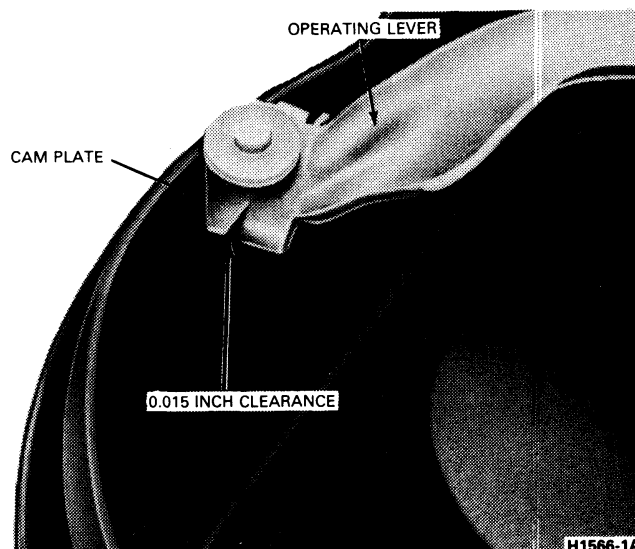

FIG. 6 Parking Brake Operating Lever and Cam Plate Clearance—Web Ledge Brakes
6. If rear wheel brake drag is noted after adjustment on E-250 and E-350, the rear drums must be removed after the service and parking brakes have been adjusted. Check the clearance between the parking brake lever and the cam plate (Fig. 6). The clearance should be 0.015 inch with the brakes fully released. If the clearance is not within specifications, readjust the parking brake cable.
On vehicles with web ledge brakes, check the clearance between the parking brake operating lever and cam plate. The clearance should be 0.015 inch when the brakes are fully released, (Fig. 6).